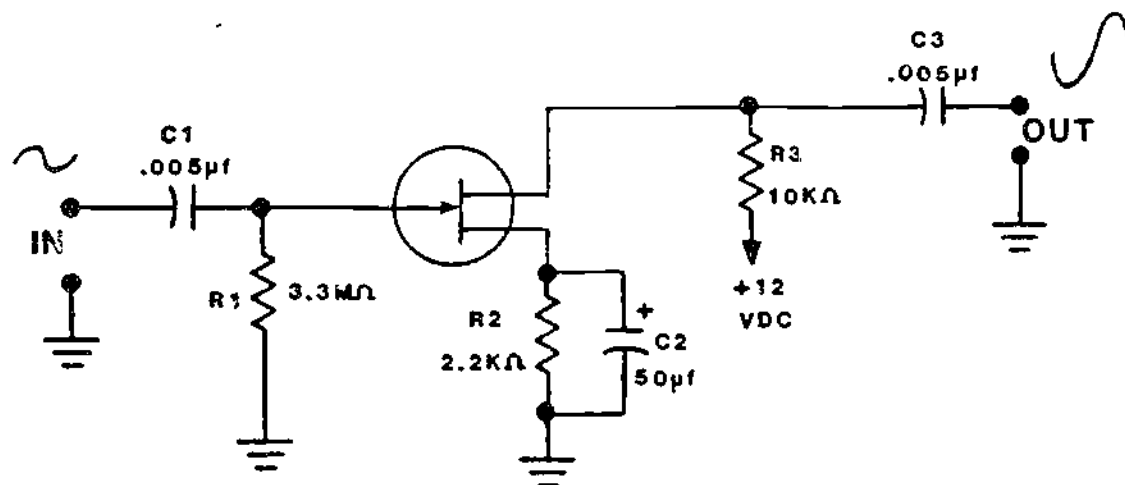

Figure 12
13. Take a look at the input and output signals in the JFET amplifier circuit shown again in Figure 12.